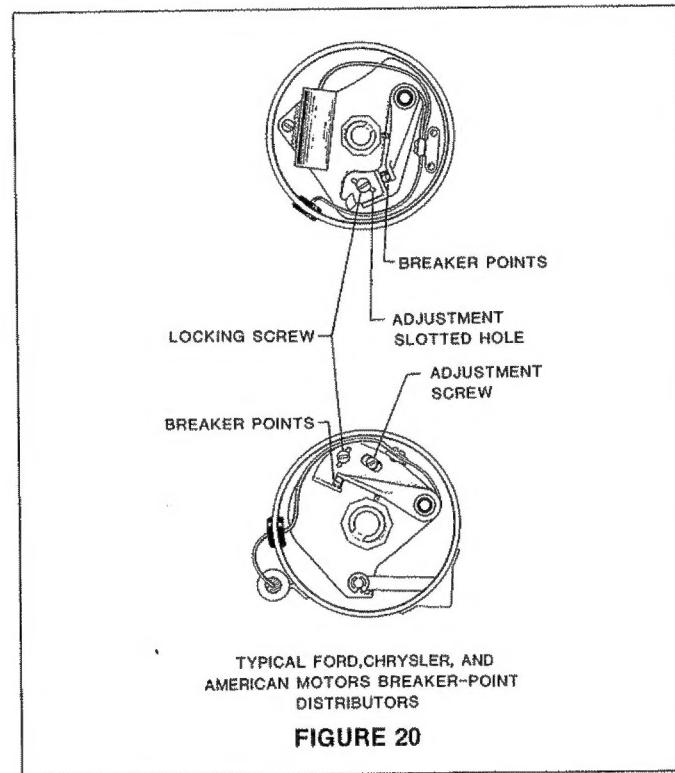

FIGURE 20
On Ford, Chrysler, American Motors and other distributors not equipped with a small metal access slide cover, perform the following steps while referring to Figure 20.
5. To adjust Dwell, loosen the locking screw slightly and adjust the point gap according to the procedure outlined in the vehicle's service manual. After adjustment, tighten locking screw, and recheck dwell while cranking engine. Repeat procedure if necessary. (Figure 20).